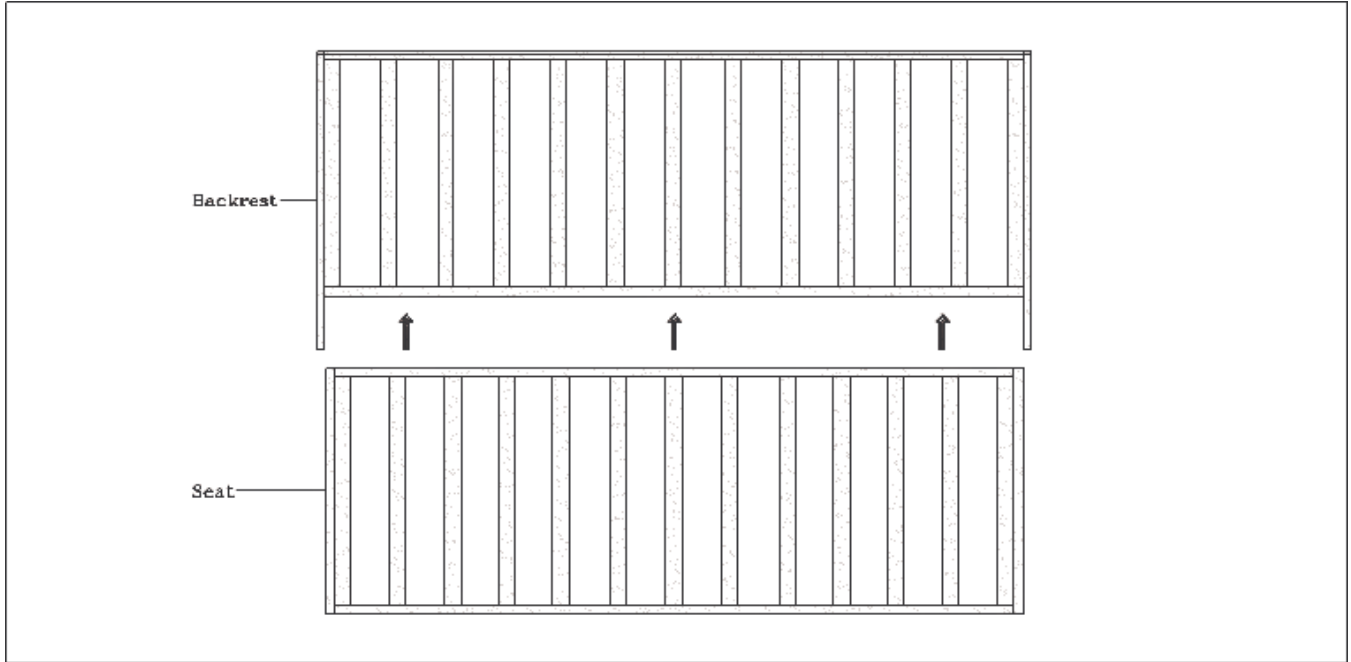

Figure 1
- 2) Locate the backrest. Locate the seat. With the slats in seat and backrest facing downward, slide the back (hole is nearer the back) of seat between legs of backrest (Figure 1).